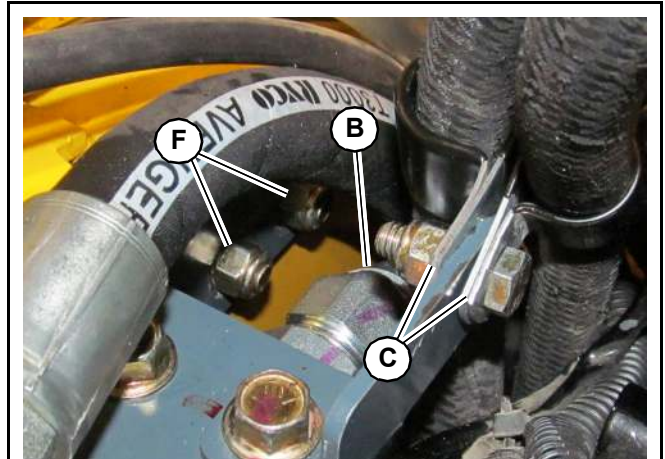

Fig. 367 – Disconnect Hydraulic Line and Hose Bracket from Hydraulic Filter Manifold
30. Disconnect hydraulic fitting (A) from the hydraulic filter manifold.
31. Disconnect fitting (B, Fig. 367) and two hose clamps (C) from the hydraulic filter manifold.